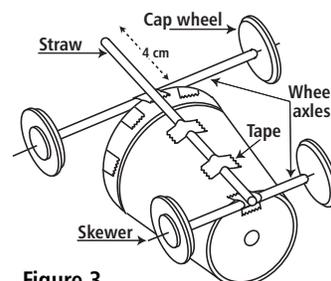

Figure 3
5. Tape a straw to the bottom of the cup, perpendicular to the other two straws (wheel axles). The straw should extend about 4 cm beyond the rear wheel axle (see figure 3).